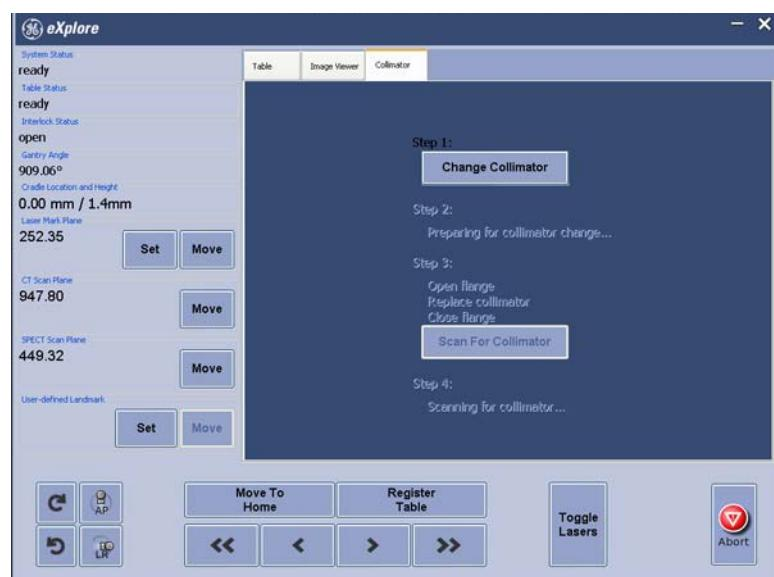

Figure 7-11
2. Follow the instructions in the dialog box (Figure 7-11).